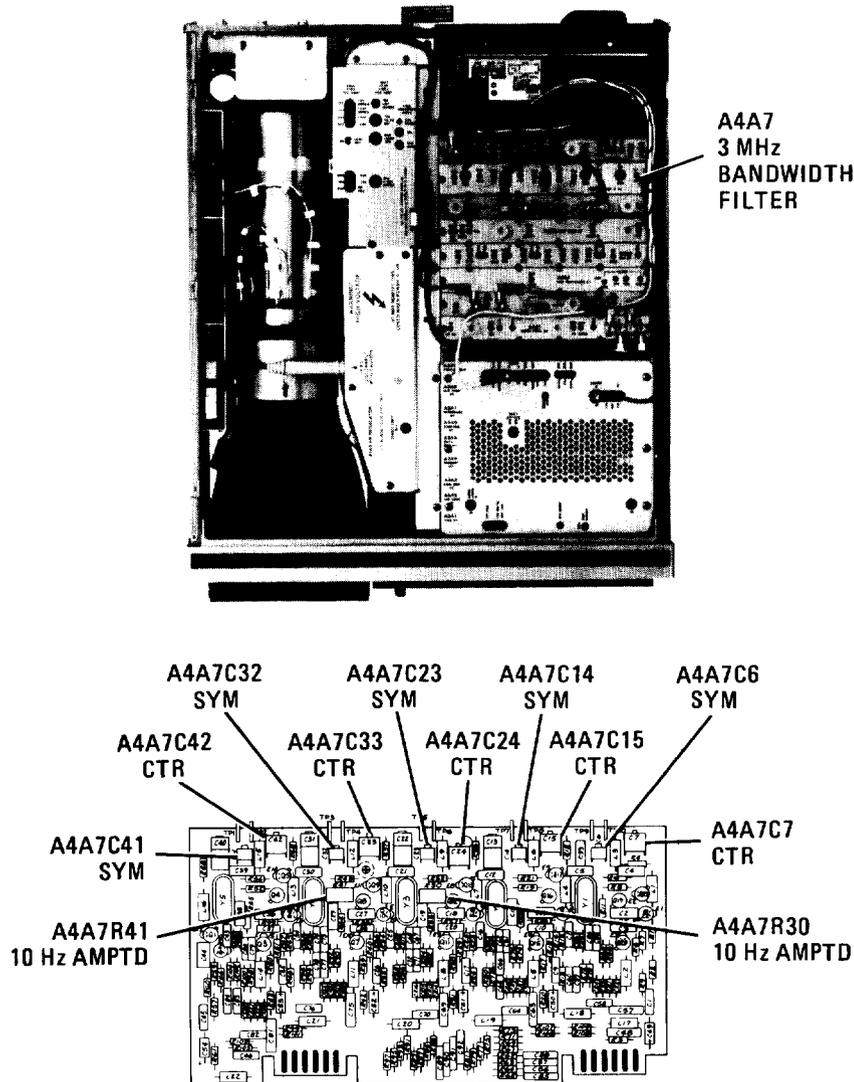

FIGURE 24. LOCATION OF CENTER, SYMMETRY, AND 10 Hz AMPLITUDE ADJUSTMENTS
8. Adjust A4A7C7 CTR for minimum amplitude signal peak. Adjust A4A7C6 SYM for best symmetry of signal. Repeat adjustments to ensure that signal is nulled and adjusted for best symmetry. Refer to Figure 24 for location of adjustments.
10. Adjust A4A7C15 CTR for minimum amplitude of signal peak. Adjust A4A7C14 SYM for best symmetry of signal. Repeat adjustments to ensure that signal is nulled and adjusted for best symmetry. Refer to Figure 24 for location of adjustments.
12. Adjust A4A7C24 CTR for minimum amplitude of signal peak. Adjust A4A7C23 SYM for best symmetry of signal. Repeat adjustments to ensure that signal is nulled and adjusted for best symmetry. Refer to Figure 24 for location of adjustments.
14. Adjust A4A7C33 CTR for minimum amplitude of signal peak. Adjust A4A7C32 SYM for best symmetry of signal. Repeat adjustments to ensure that signal is nulled and adjusted for best symmetry. Refer to Figure 24 for location of adjustments.
16. Adjust A4A7C42 CTR for minimum amplitude of signal peak. Adjust A4A7C41 SYM for best symmetry of signal. Repeat adjustments to ensure that the signal is nulled and adjusted for best symmetry. Refer to Figure 24 for location of adjustments.
42. Adjust A4A7R30 10 Hz AMPTD and A4A7R41 10 Hz AMPTD equal amounts to set the signal level the same as the reference level set in step 39. See Figure 24 for location of 10 Hz AMPTD adjusts.